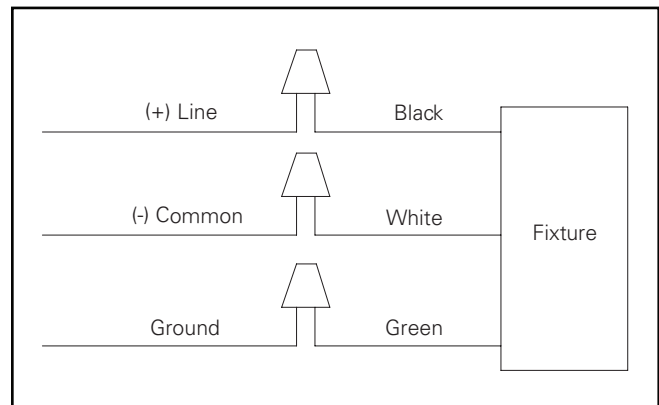

Figure 3.
4. Refer to wiring diagrams for power connection (Fig 3).
4. Install and hold provided nut plate inside the pole. With fixture supported, align (2) 1/2-13 fasteners through the arm, pole adapter if used and hole pattern in the pole into the nut plate. Hand tighten to ensure fixture is aligned prior to tightening.
6. While using cable clamp provided in the nut plate to dress the wires as needed inside the pole, connect the supply wires to appropriate luminaire leads (Fig 3).